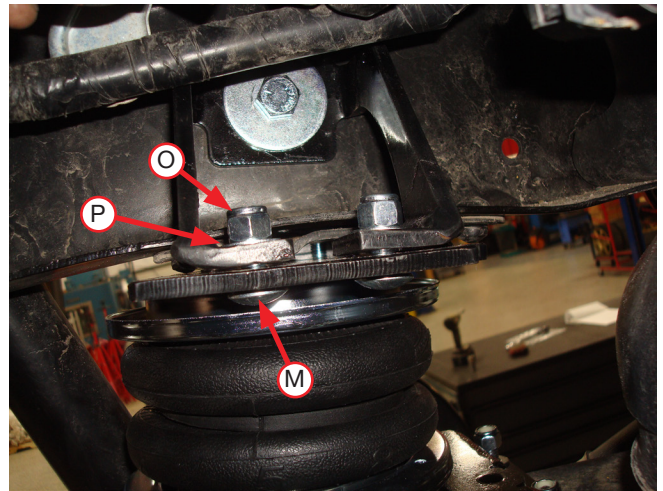

Fig. 14
8. On the inside of the frame, insert two 3/8" carriage bolts (M) up through the bottom of the upper bracket and through the inner brace (Fig. 14). Cap the bolts with two 3/8" flat washers (P) and nylon lock nuts (O). Ensure the welded piece on the front of the upper bracket touches the stock jounce bumper bracket all the way across where it comes in contact with it. Also, ensure the rear of the upper bracket is contacting the stock jounce bumper bracket. Adjust the inner brace by pulling it all the way back to the back side of the slots on the upper bracket. Tighten the nuts on the carriage bolts so they are snug, and repeat on the other side.
9. Snug the outer clamp bar carriage bolt while ensuring that the upper bracket is set against the stock jounce bumper bracket. Torque the 1/2" bolt on the inner frame brace to 35 lb.-ft. (47Nm). Finish by torquing the (3) 3/8" upper nylon lock nuts to 16 lb.-ft. (22Nm).